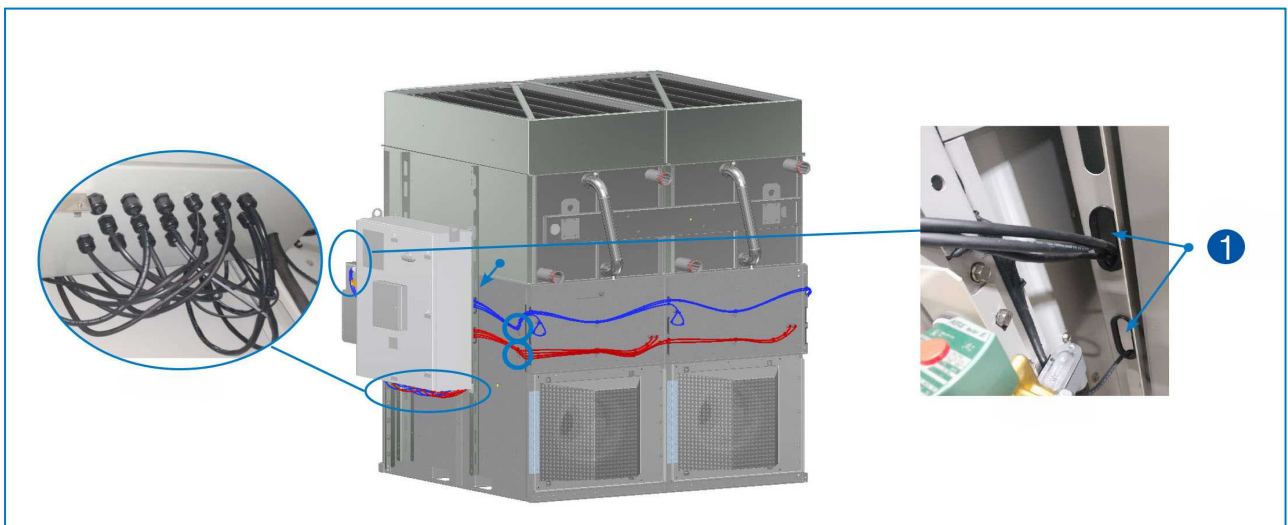

Fig. 17 Wire to the iPilot® Control System panel - 1. Mounting channel with oblong holes with edge trim.
6. Route the fan power wire through the bottom oblong hole with the edge trim on the control panel mounting channel. Pull each wire through each cord grip at the bottom of the control panel, then connect each connector of wire to the correct terminal block position. See figure 17.
7. Route the fan communications and component wires through the bottom oblong hole with the edge trim on the control panel mounting channel. Pull each wire through each cord grip at the bottom of the control panel, then connect each connector of wire to the correct terminal block position. See figure 17.